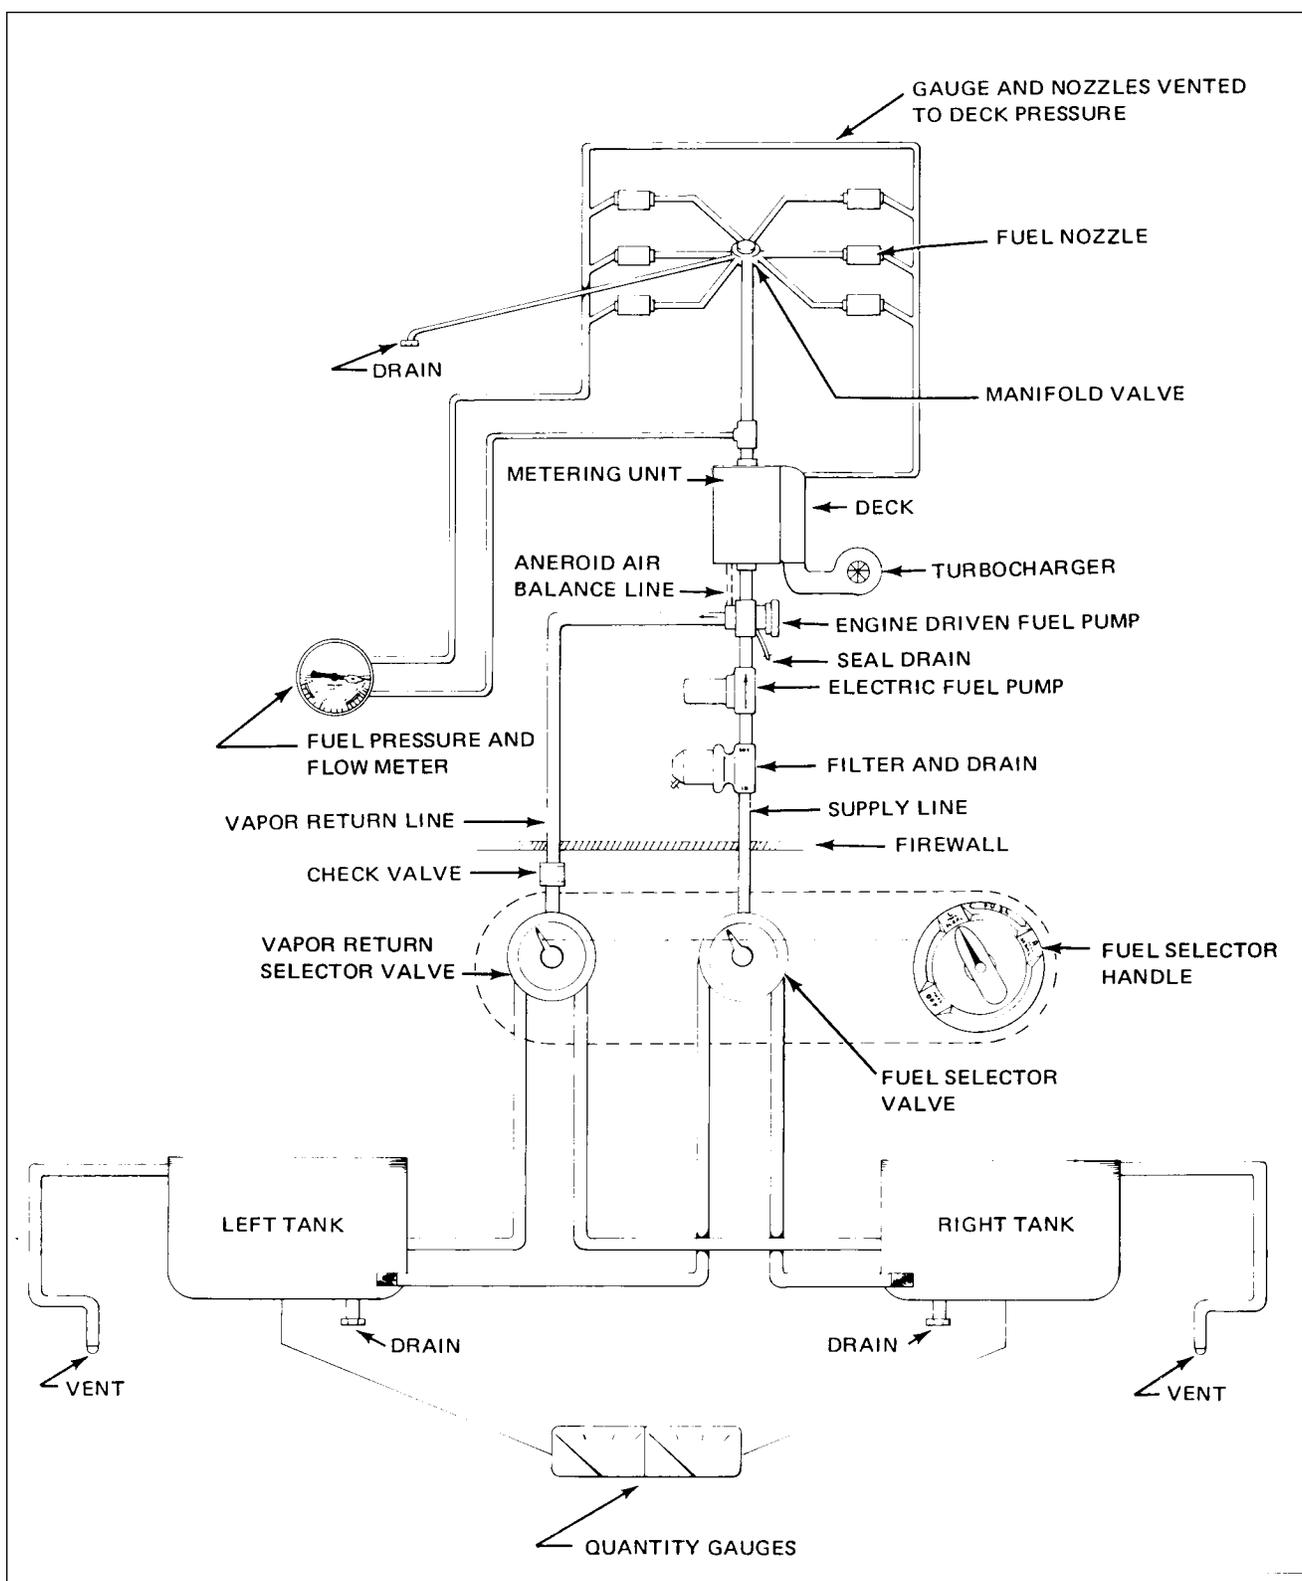

Figure 28-2. Fuel System Diagram (PA-28RT-201T)
**PA-28RT-201T** (Refer to Figure 28-2.)